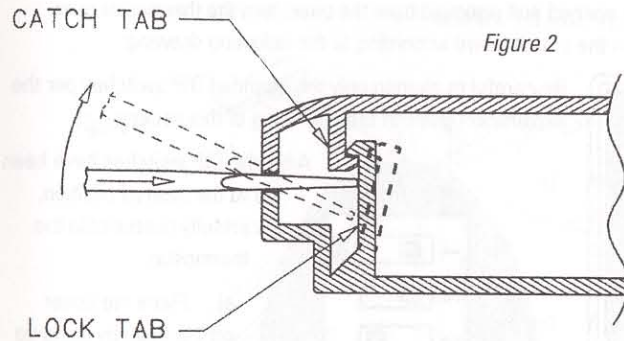

Figure 2
- d) Gently push in and pry up on the handle of the screwdriver until the lock tab disengages from the catch tab (you should feel or hear a click - see Figure 2).